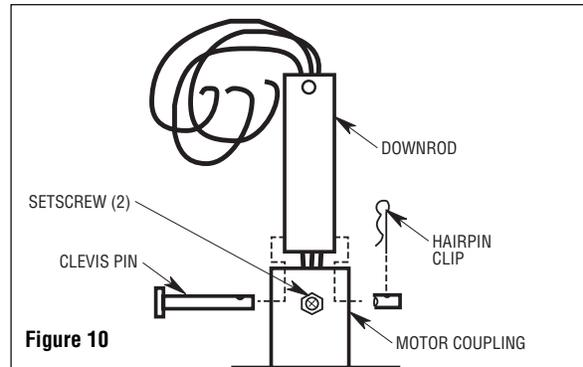

Figure 10
2. Loosen setscrew in motor coupler if necessary. Separate, untwist and unkink the three 80" motor leads. Route the motor lead wires through the downrod. Align the clevis pin holes in the downrod with the holes in the motor coupler. Install the clevis pin and secure with the hairpin clip (Figure 10). The clevis pin must go through the holes in the motor coupler and the holes in the downrod. Be sure to push the straight leg of the hairpin clip through the hole near the end of the clevis pin until the curved portion of the hairpin clip snaps around the clevis pin. The hairpin clip must be properly installed to prevent the clevis pin from working loose. Pull on the downrod to make sure the clevis pin is properly installed.